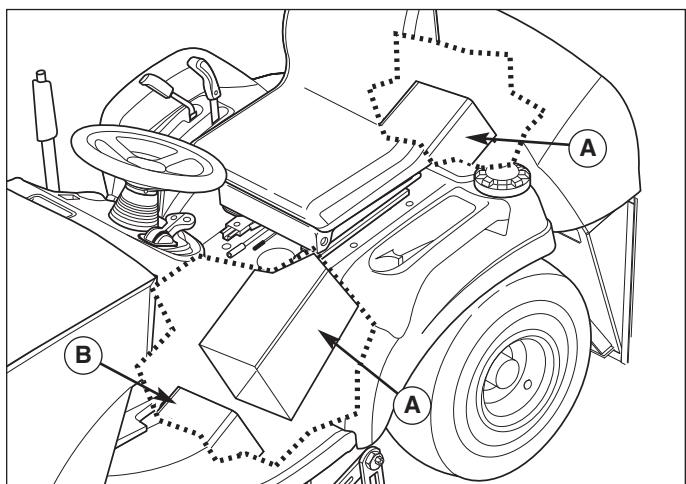

Figure 9. Discharge Tube
7. Push the discharge tube (A, Figure 9) toward the back to separate it from the mower discharge opening (B).
4. See Figure 9. Slide the discharge tube onto the mower discharge opening.